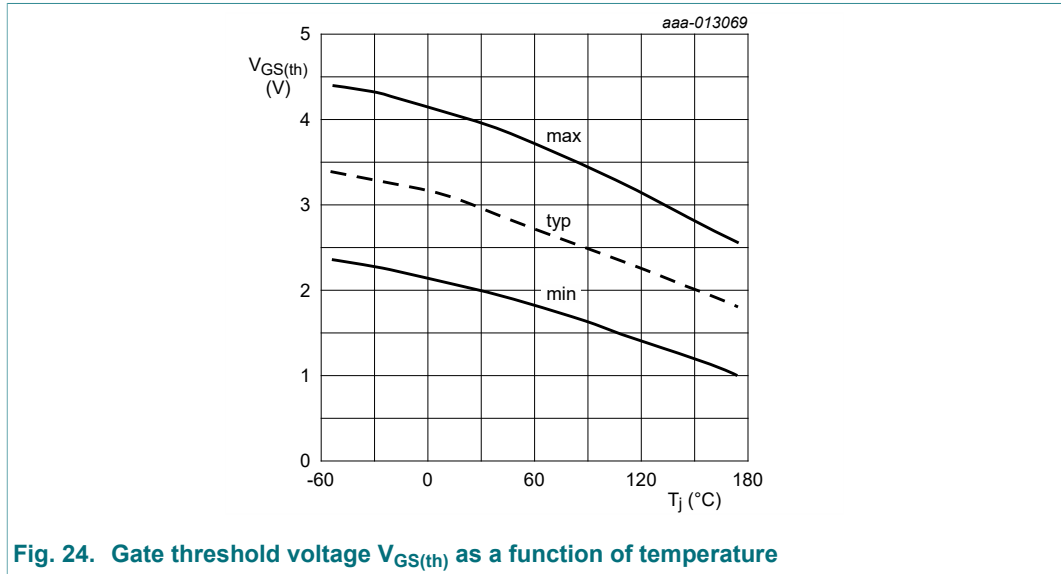

Fig. 24. Gate threshold voltage $V_{GS(th)}$ as a function of temperature
Referring to Fig. 24, the typical gate threshold voltage $V_{GS(th)}$ is 3 V. It rises to approximately 3.5 V at -55 °C (i.e. a rise of approximately 0.5 V). The highest $V_{GS(th)}$ rises from approximately
13.9. Q: How is the maximum permissible drain current estimated, at the point of $V_{DS} = 0.1 \text{ V}$, from the SOA curve of the BUK9K12-60E shown in Figure 24? Some manufacturers describe down to the V_{DS} value in their SOA curves.